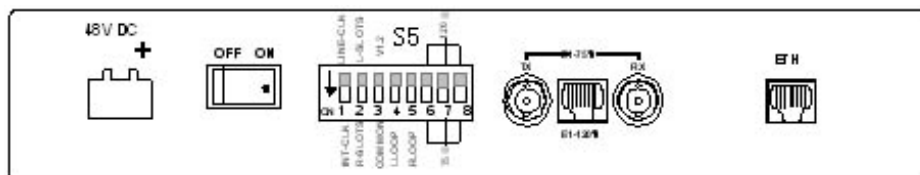

Figure 4 DC input rear panel of FE1&10/100BASE-T bridge
- The DC input rear panel of FE1&10/100BASE-T Bridge is shown in figure 4.